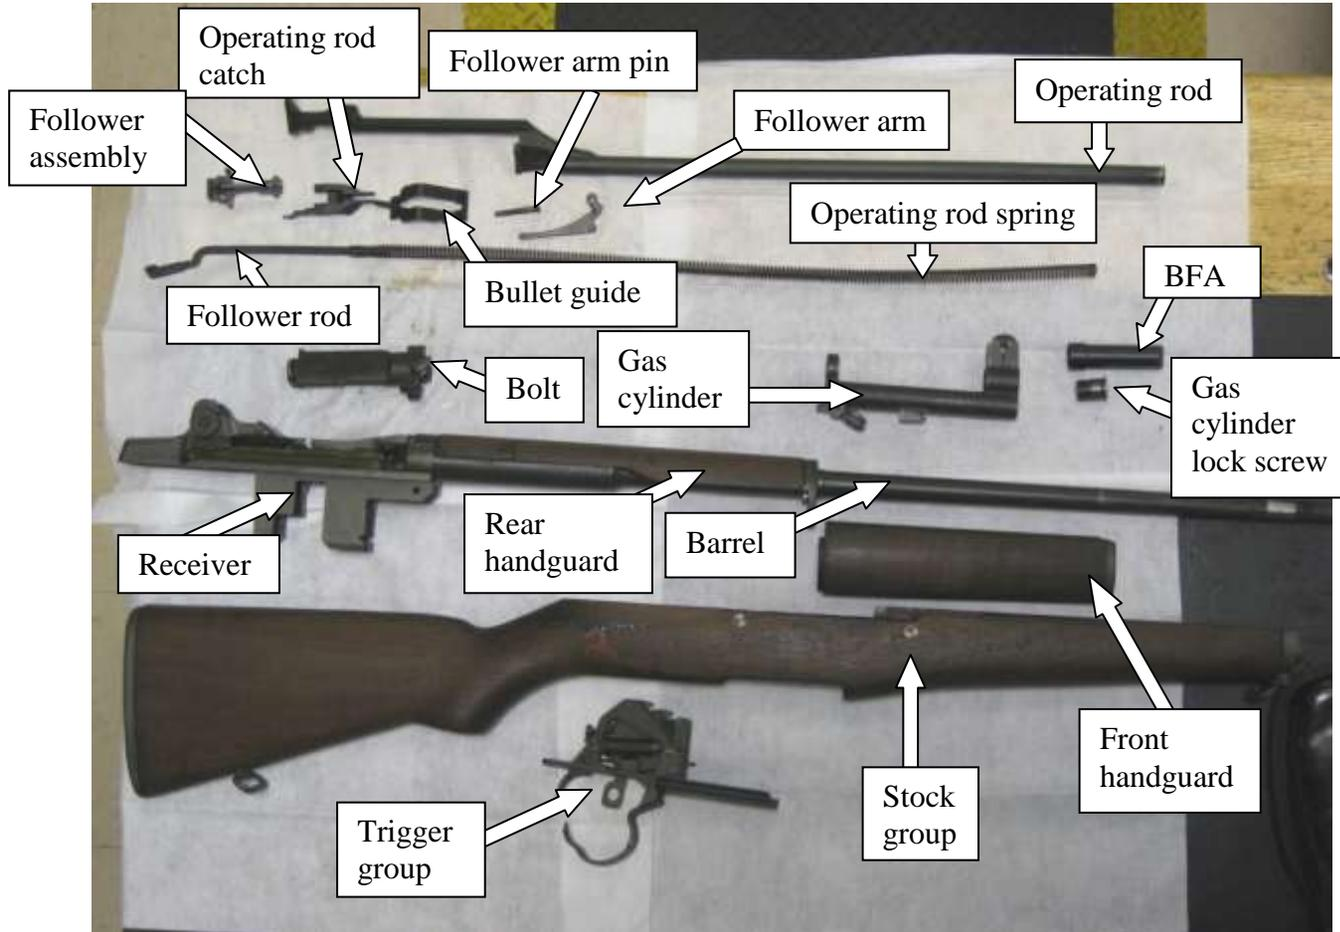

Figure 28 -Disassembled parts of M1 Garand rifle
9) The parts of the barrel and receiver group are shown below along with the stock group and trigger group (fig 28).